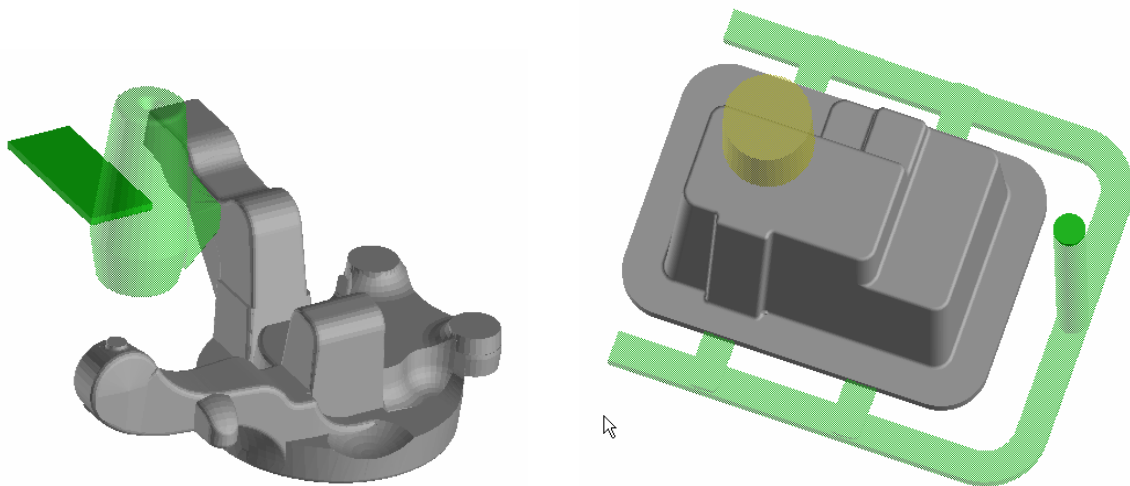

Figure 3. Simplified mold filling model(left), complete model for full CFD fluid flow analysis(right).
- In Model Building, Create Only the Necessary Parts – For example, if running a simple filling simulation, rather than a full CFD-based fluid flow analysis, you normally won't have to create the complete gating system. In most cases, the mold can be created automatically at mesh time, rather than built as a part of the model. Examples of models appropriate for simplified filling and full CFD fluid flow analysis are shown below in Figure 3: